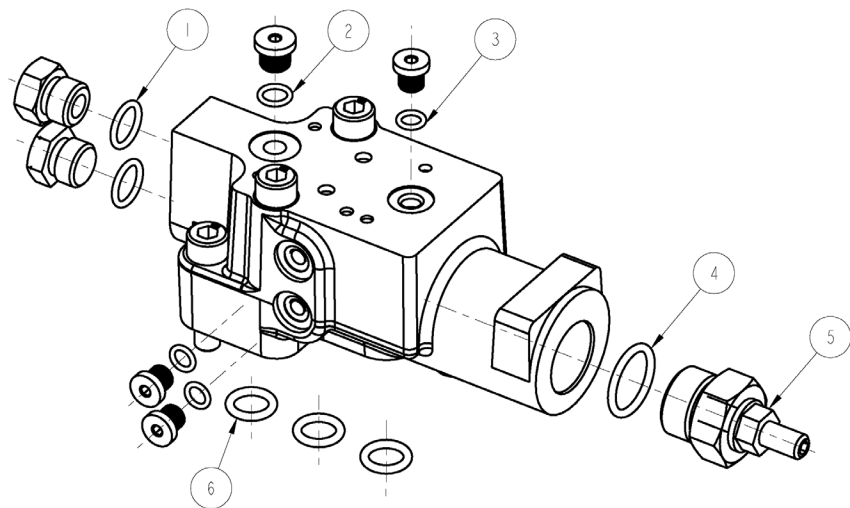

Figure 26
1. Remove the oil pipe (Figure 26, 122) and remove it at both ends.
2. Remove the joint (Figure 26, 126) and the joint (Figure 26, 121).
3. Remove the tee (Figure 26, 119), which contains a damping plug (Figure 26, 120).
4. Remove the torque valve (Figure 26, 118).
1. Install the torque control valve (Figure 26, 118). Set the installation height as shown in **Figure 2**. After adjusting the height, tighten the torque control valve with a torque of 40 - 44 Nm.
2. Install the tee (Figure 26, 119), which contains the damping plug (Figure 26, 120). Tighten the tee with a torque of 33-35 Nm.
3. Install the joint (Figure 26, 126) and tighten it with a torque of 14-16 Nm.
4. Install the joint (Figure 26, 121) and tighten it with a torque of 20-22 Nm.
5. Install the oil pipe (Figure 26, 122) and tighten both ends with a torque of 14-16 Nm.